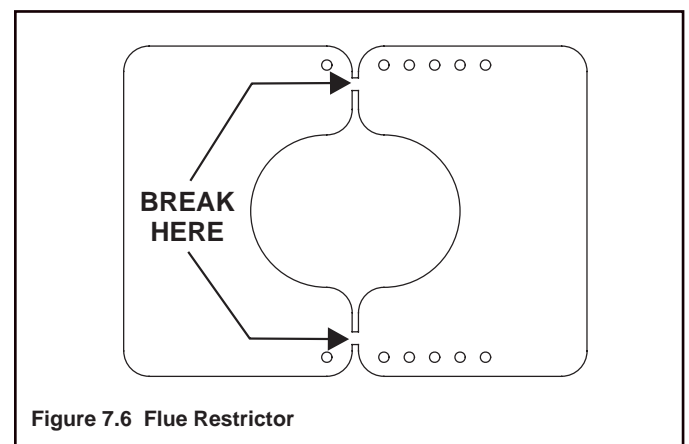

Figure 7.6 Flue Restrictor
1. Break the Flue Restrictor into two pieces. Do this by bending the part back and forth until it breaks (see Figure 7.6).